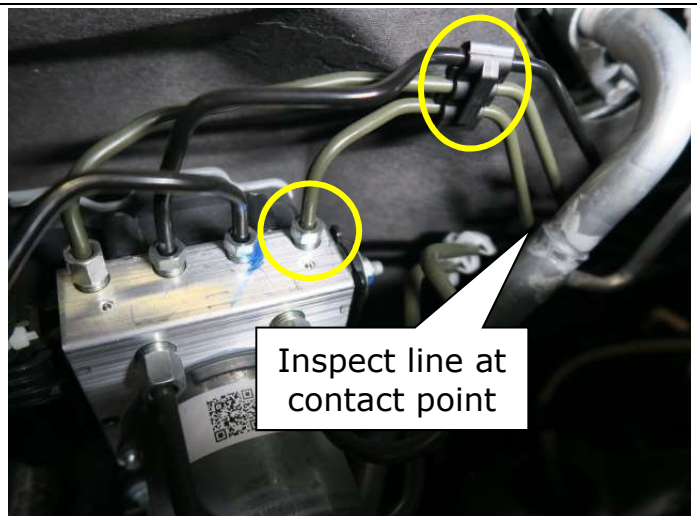

Figure 8
6. Loosen brake line nut and clip on the passenger side only. (Figure 8)